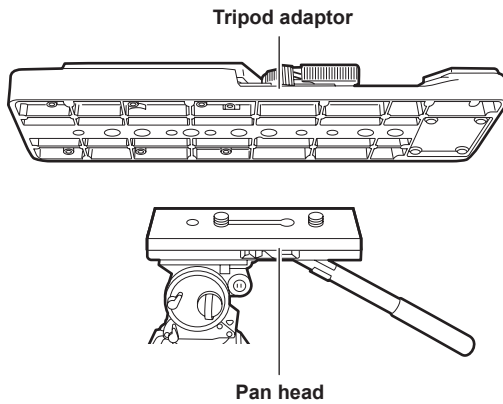

Fig. 1
**1** Mount the tripod adaptor on the tripod. (Fig. 1)